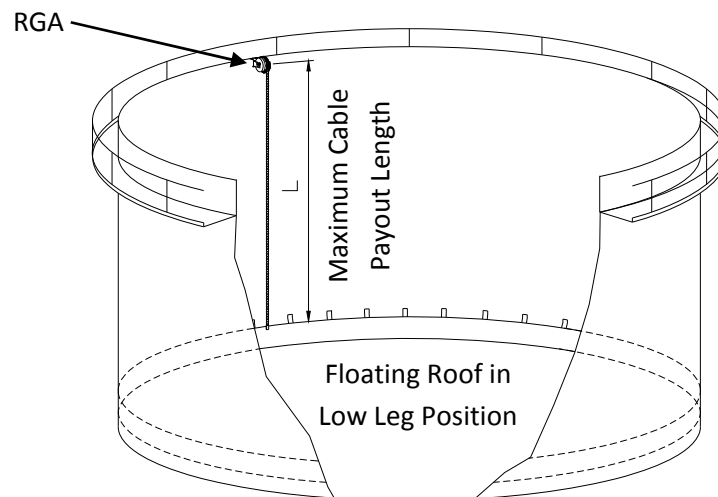

Figure 5: Maximum cable payout length
- I. Determine the maximum RGA cable payout length, as shown below in Figure 5, for the tank in question by subtracting the height of the floating roof support legs, floating roof thickness, and foam dam height from the overall height of the tank.